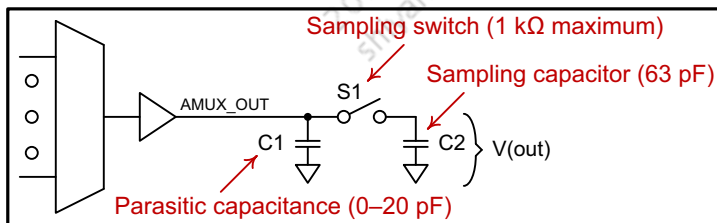

Figure 3-4 Analog multiplexer load condition for settling time specification
- The AMUX output and a typical load is modeled in Figure 3-4. After S1 closes, the voltage across C2 settles within the specified settling time.